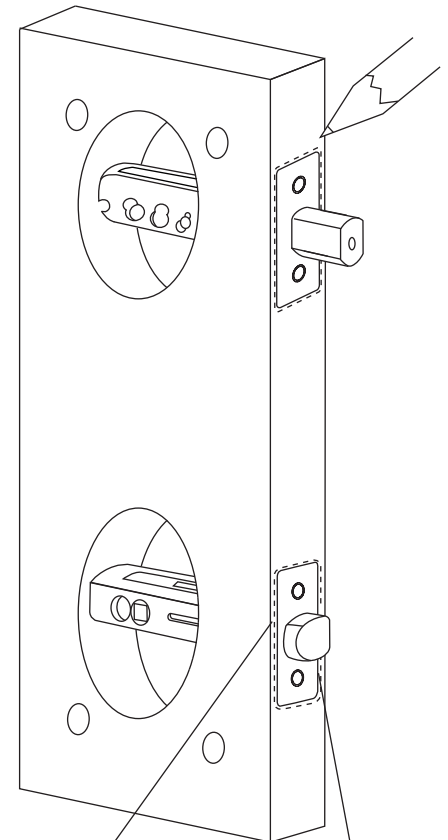

Figure 4
- k. Mark Dead Bolt and Spring Latch faceplates on door edge with a pencil (Figure 4).